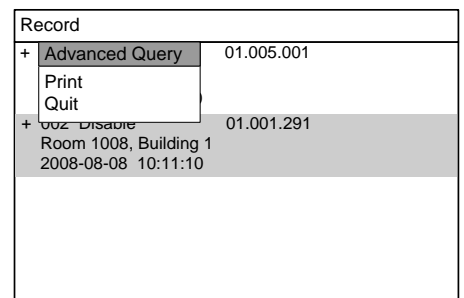
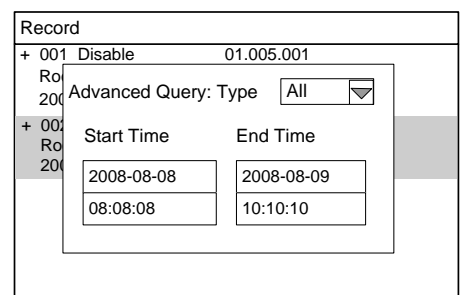

Fig.11-3
Fig.11-4
2. Press “Menu” to pop out the record menu, select “Advanced Query” (Fig.11-3), and then press “OK” to pop out advanced query window (Fig.11-4).